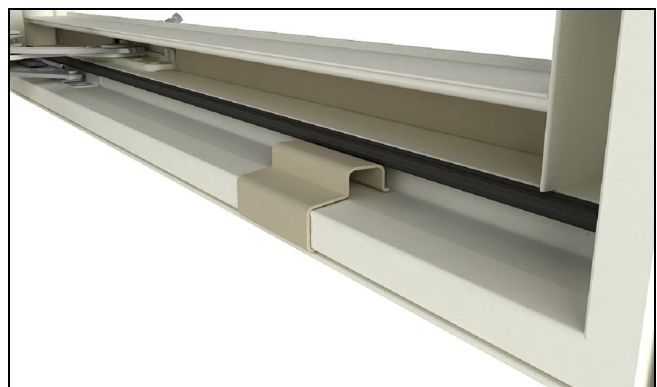

Figure 28
5. On Casement units: Open the sash and remove the shipping blocks from the frame. See Figure 28.